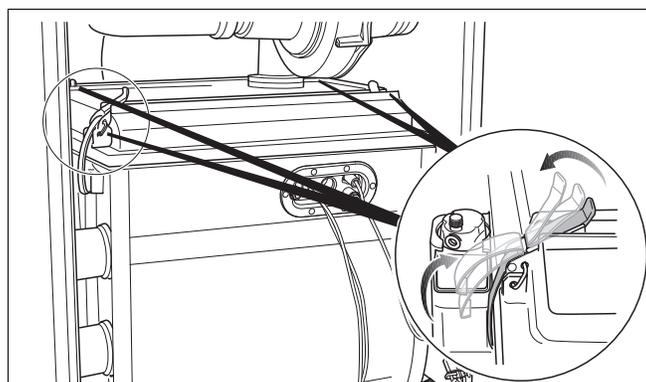

Fig. 83 Opening the retaining clips
- Carefully open the 4 snap retaining clips on the burner cover (fig. 83). The retaining clips may be under tension.